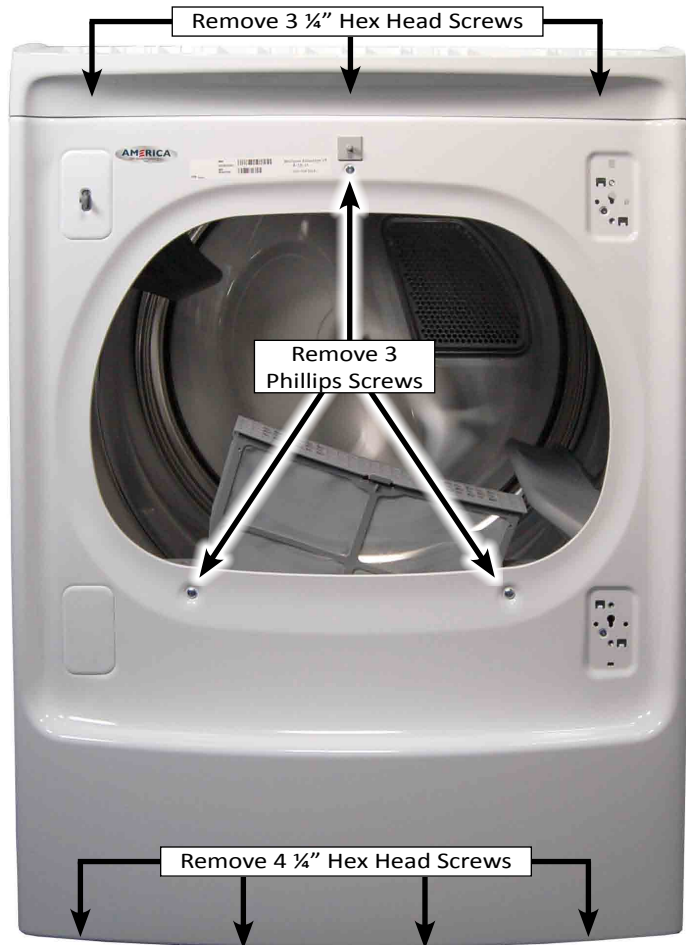

Figure 3
**NOTE:** Refer to **Figure 3** for the following 3 steps.
5. Open dryer door and remove the lint screen. Next, remove the three (3) Phillips screws (see Figure 3).
6. Remove four (4) 1/4" hex-head screws from the bottom of the front panel (see Figure 3).
7. Remove three (3) 1/4" hex-head screws from the top of the front panel (see Figure 3).